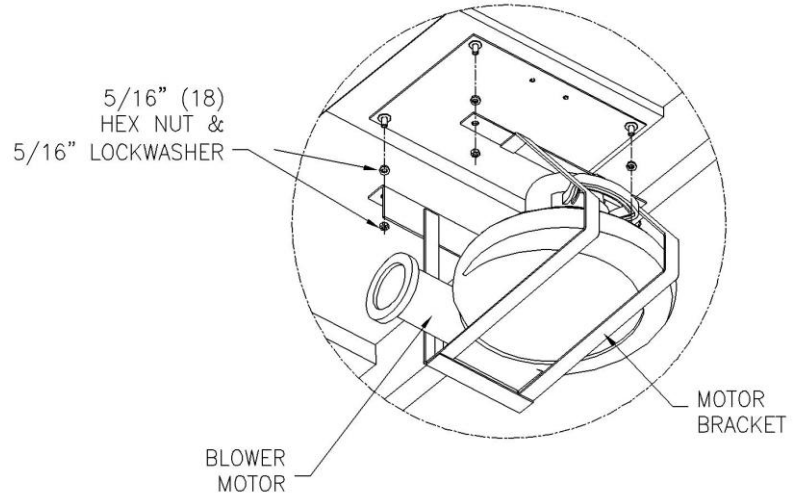

FIG. 11A
- **Mount Motor/Blower** (Figure 11A).